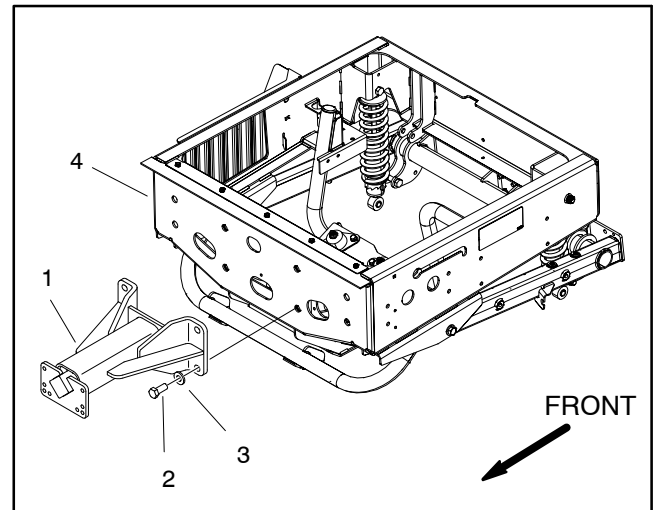

Figure 23
5. Remove four (4) cap screws and flat washers securing the pivot yoke to the rear frame (Fig. 23).
1. Position pivot yoke to the front frame so the diamond pattern faces up. Secure yoke to front frame with four (4) flange head screws and flanged lock nuts. Tighten lower two (2) fasteners first, then tighten upper two (2) fasteners.
3. Secure pivot yoke to the rear frame with four (4) cap screws and flat washers (Fig. 23).